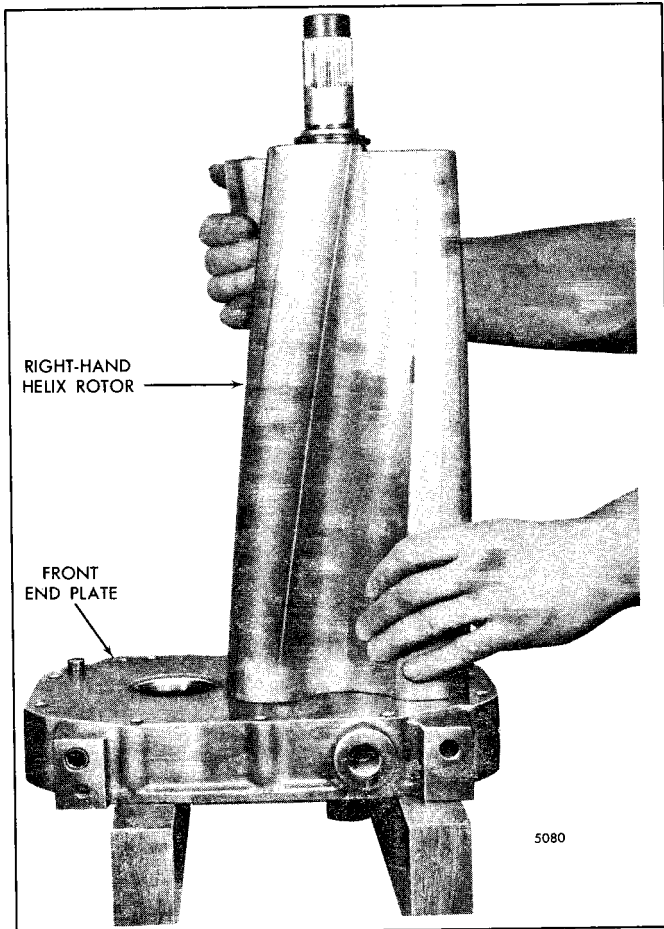

Fig. 16 – Installing Blower Rotor in Front End Plate
- b. Support the front end plate on two wood blocks approximately 4" high, with the inner face of the end plate facing up and the TOP side of the plate away from the technician and the bottom toward the technician (Fig. 16).
- e. Start the end of the rotor shaft straight into the right-hand shaft opening in the end plate (Fig. 16). Continue to lower the rotor until the oil seal ring contacts the seal ring collar in the end plate. Then, carefully work the oil seal ring into the collar until the rotor contacts the end plate.